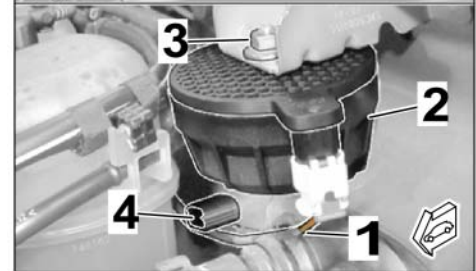

Figure 20
2.3 Install engine noise pulse sender (\Rightarrow Figure 20)
2.3.1 Route branch with connector (2-pin) to the engine noise pulse sender holder (⇒ *Figure 20-top*).
Secure engine noise pulse sender, facing downwards, in the plenum panel holder using M6 hexagon collar nut (1 x) (⇒ *Figure 20*)